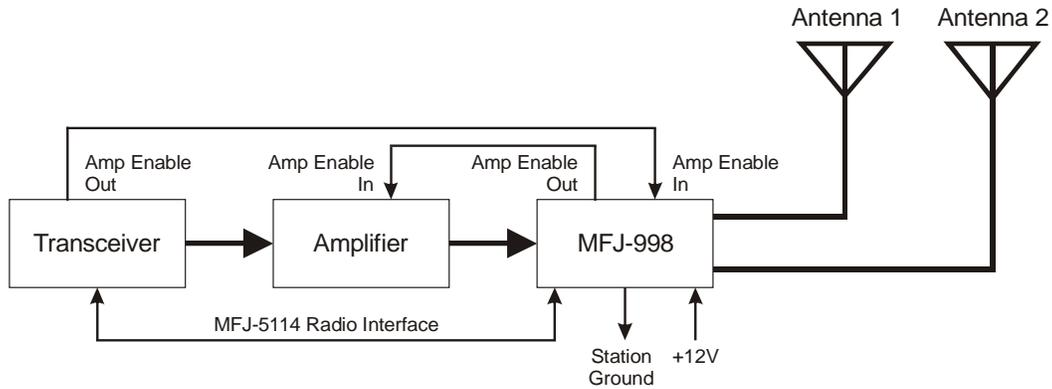

Figure 1. Typical Installation Block Diagram.
Connect the MFJ-998 to the transceiver, the amplifier, and the antenna as shown in Figure 1 and per the following directions:
2. Connect the tuner to the transceiver or amplifier with 50-ohm coaxial cables capable of handling the RF power levels expected. See Figure 1 on page 5.